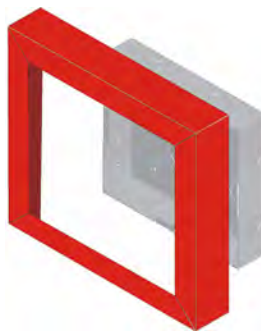

Figure 4.18 Installing the Trim Ring
4. Place the trim ring over the back box as shown in Figure 4.18.